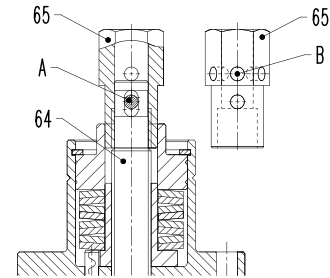

Figure 7-3
1. Place hexagon head (65); see «Figure 7-3» on the spindle (64) and fix it with following dowel pin (A) at the diameter: